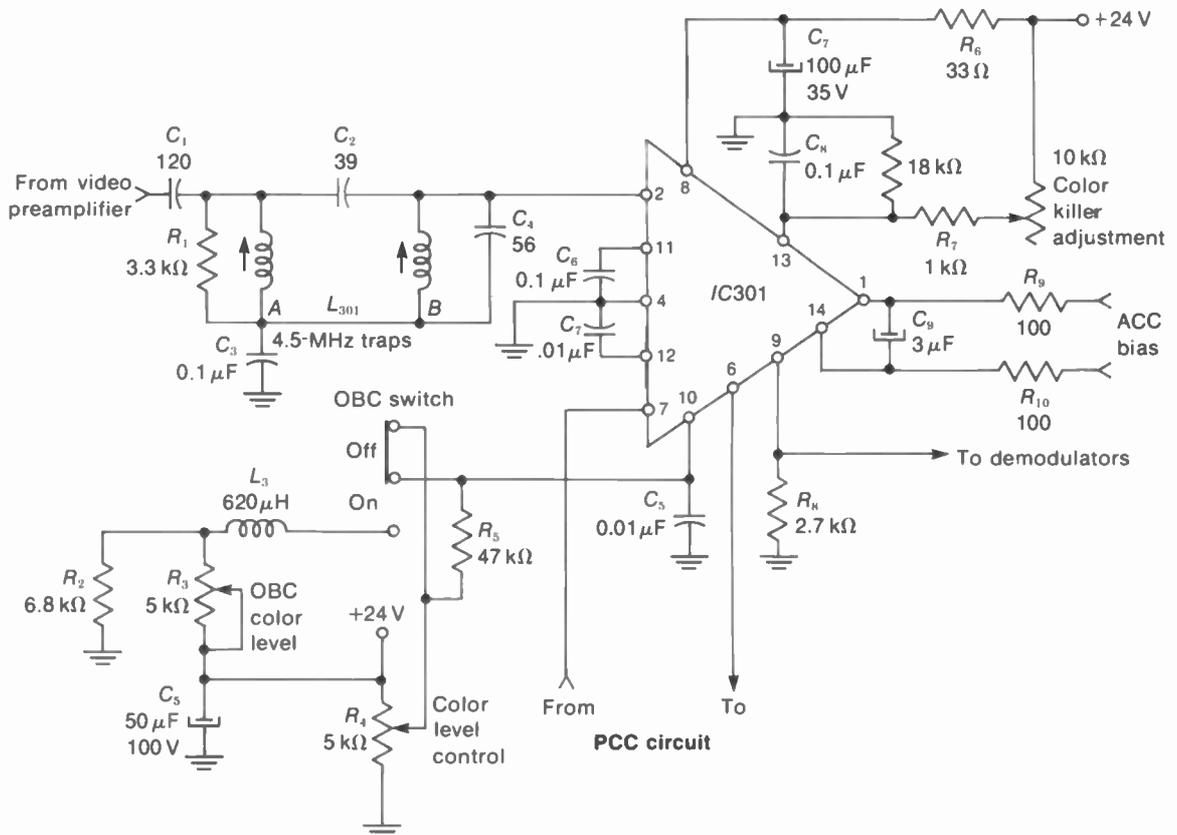
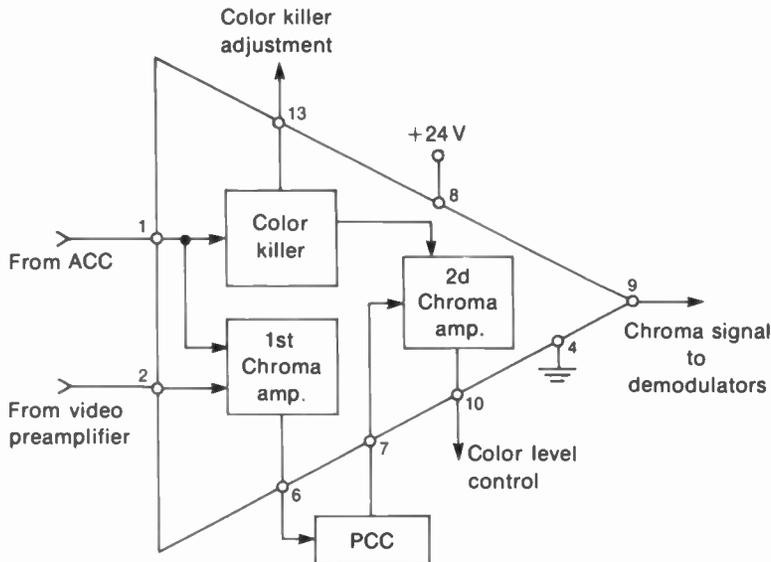

FIGURE 17-8 CHROMA AMPLIFIER USING IC UNIT. R IN OHMS AND C IN PICO FARADS. (FROM SEARS MODEL 4360)
FIGURE 17-9 BLOCK DIAGRAM OF THE IC301 UNIT FOR THE CHROMA AMPLIFIER IN FIG. 17-8.
**IC chroma amplifier.** The integrated circuit in Fig. 17-8 includes two chroma amplifier stages and the color killer, as shown in the block diagram in Fig. 17-9. Referring to Fig. 17-8, colorplexed composite video signal is applied to